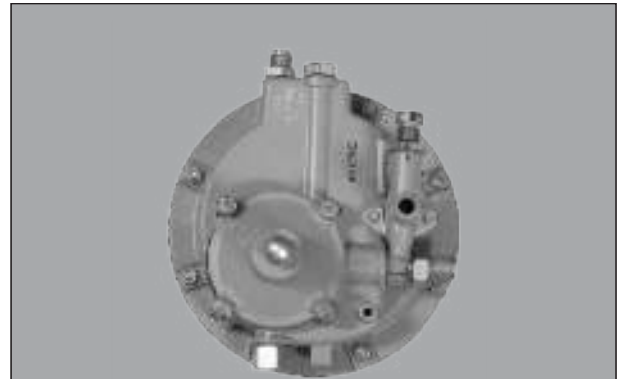

Fig. 8.8
- The two stage CNG reducer reduces the gas pressure from 4 bar to the atmospheric pressure in two stages. It is provided with idling & flow adjuster screw (power screw) for tuning as per engine requirement. (Fig. 8.8)